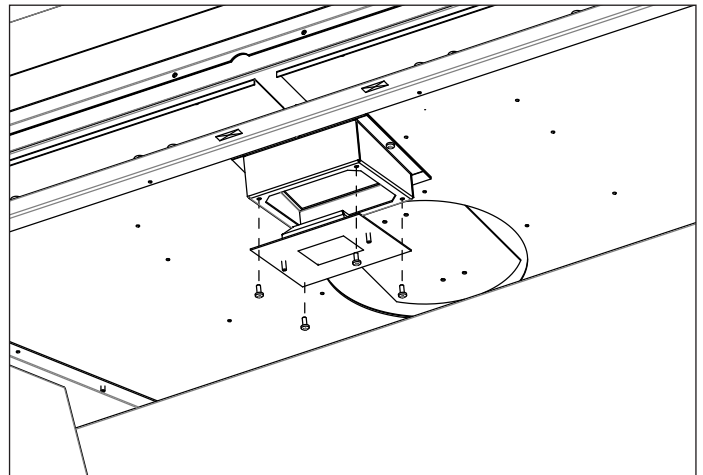

Figure 14: Top Light Removal
4. Remove the top light assembly by removing four (4) bolts using a 5/16" socket (see Figure 14).